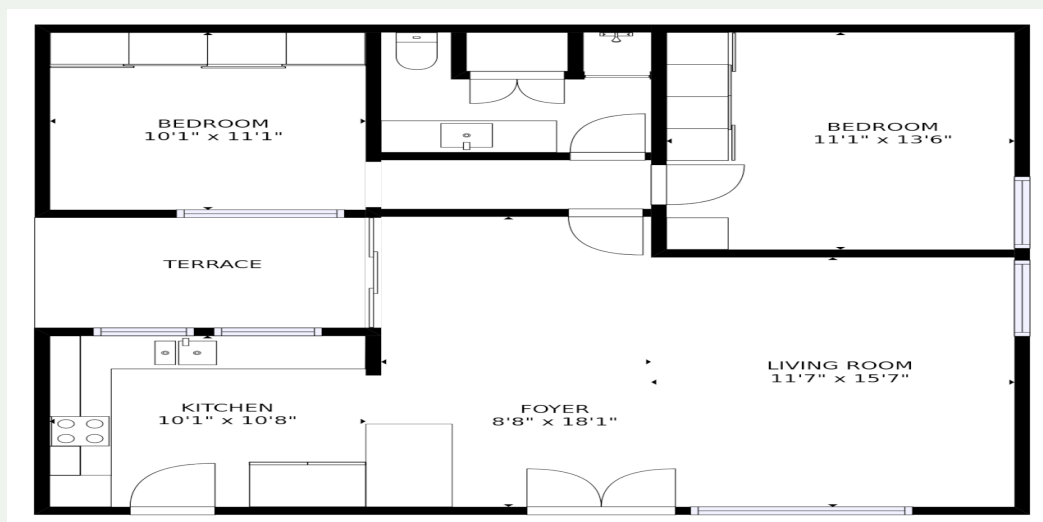

Figure 3.1.7: Floor Plan
1. **Study the Floor Plan** in Figure 3.1.7